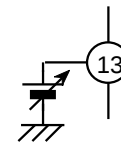

Fig.2
5. Switchover(Pin13) can be changed by supplying some voltage as Fig.2.